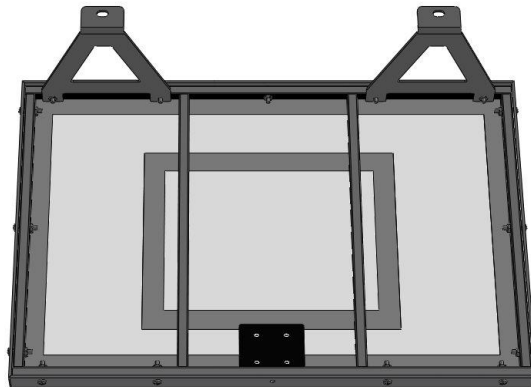

Figure 1
Attach the Upper Brackets to the Frame using (4) of the #10-24 x 1" Frame Screws and (4) #10Locknuts. The Upper Brackets attach to the two outside holes in the top of the frame. See Figure 1.